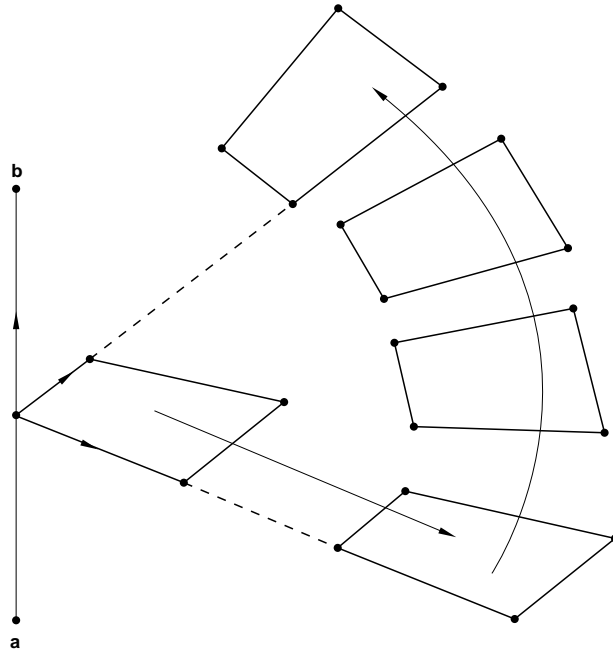

Figure 14.1-1 *NCOPY, SHIFT option.
1. *X*-coordinate of the first point defining the rotation axis (point *a* in Figure 14.1-1).
4. *X*-coordinate of the second point defining the rotation axis (point *b* in Figure 14.1-1).